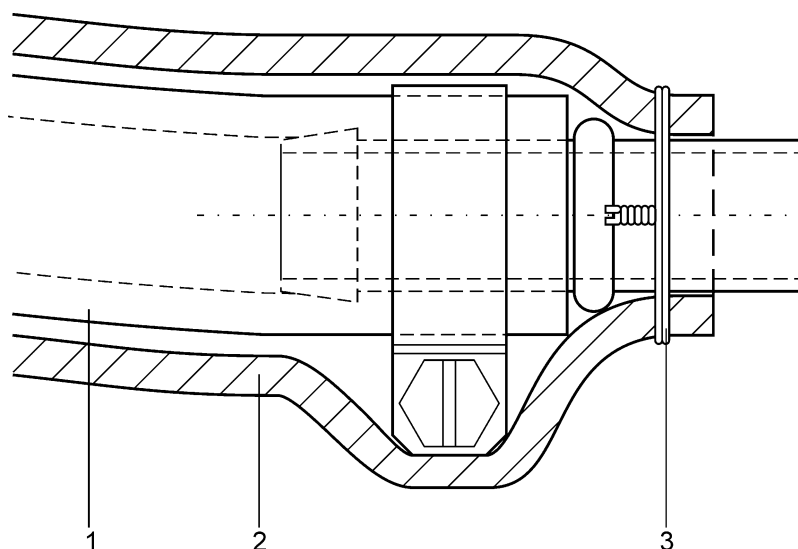

Fig. 1 – Installation of the PYROJACKET PJA 14 protective sleeve
- 1.3.4 Cut the cable ties securing the oil system hoses to the other components. Remove the original rubber protective covers against abrasion. Remove the ends of the oil system hoses (1, Fig. 1) from the more accessible sides or remove the hoses completely - all determined by the accessibility of the dismantling point itself. Take extra care when working with the oil system hoses due to residual oil inside the hoses.
- 1.3.6 Determine the length of the PYROJACKET protective sleeve (2) in accordance with the length of each individual oil system hose. Add the necessary allowance to the length of the PYROJACKET protective sleeve (2) to allow the fittings to be attached to both ends of the oil system hose (Fig. 1). The version of the oil system with a thermostat requires 5 pieces of PYROJACKET protective sleeves (2), the version of
Legend to Fig. 1